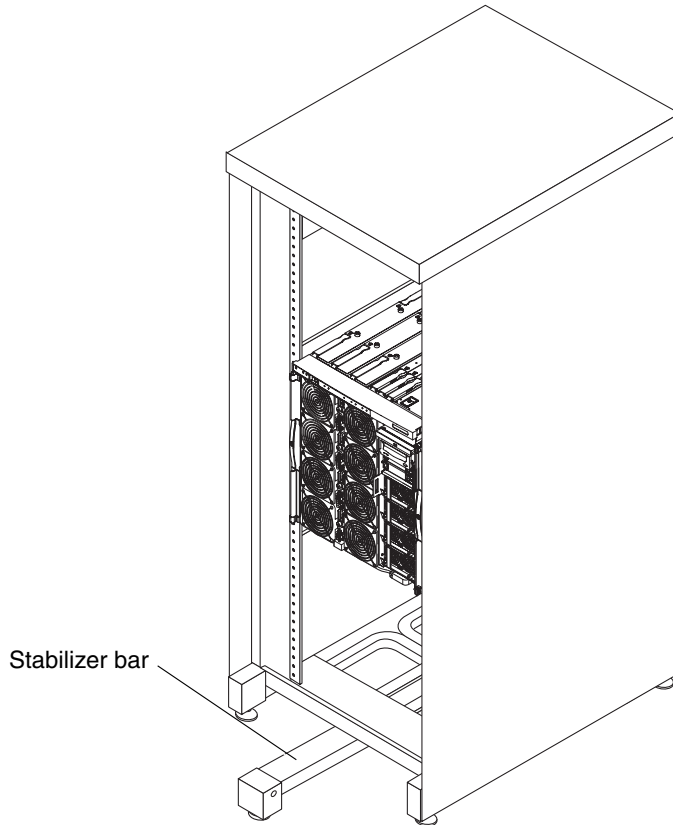

FIGURE 3-1 Sun Rack 900 System Cabinet With Stabilizer Bar Extended
2. Extend and lock the system cabinet stabilizer bar (FIGURE 3-1).
3. Extend the cabinet stabilizer of the new cabinet and lock it in position (FIGURE 3-1).
11. **Retract the cabinet stabilization mechanism (FIGURE 3-1).**